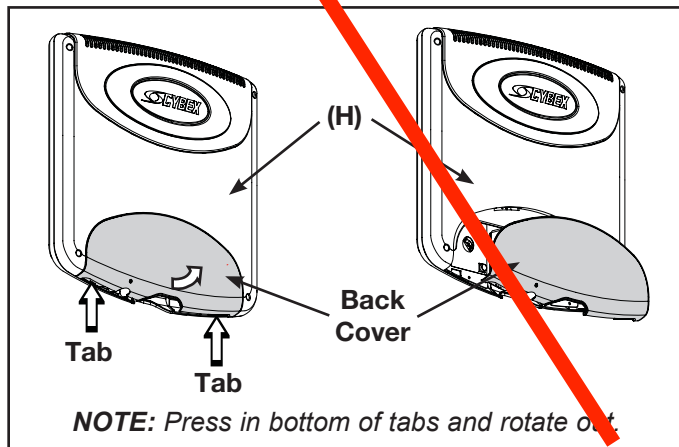

Figure 22
A. Locate monitor (H), four mounting screws (K), four lock washers (L) and four flat washers (M).
B. Remove the back cover from monitor (H) by pressing the bottom tabs of the cover in and rotating out. See Figure 22.